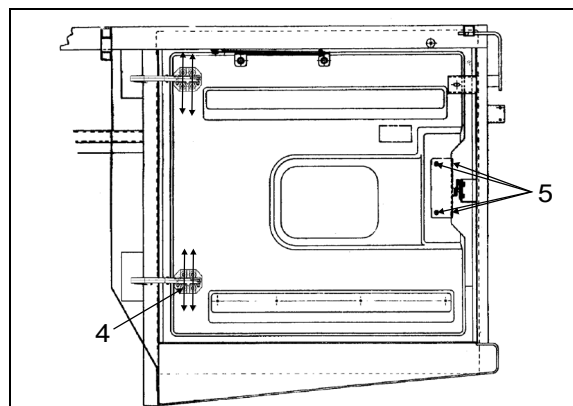

FIGURE 80: PORTE DU COMPARTIMENT MOTEUR_{18633_1}
8. Desserrer les vis (4, Figure 80).